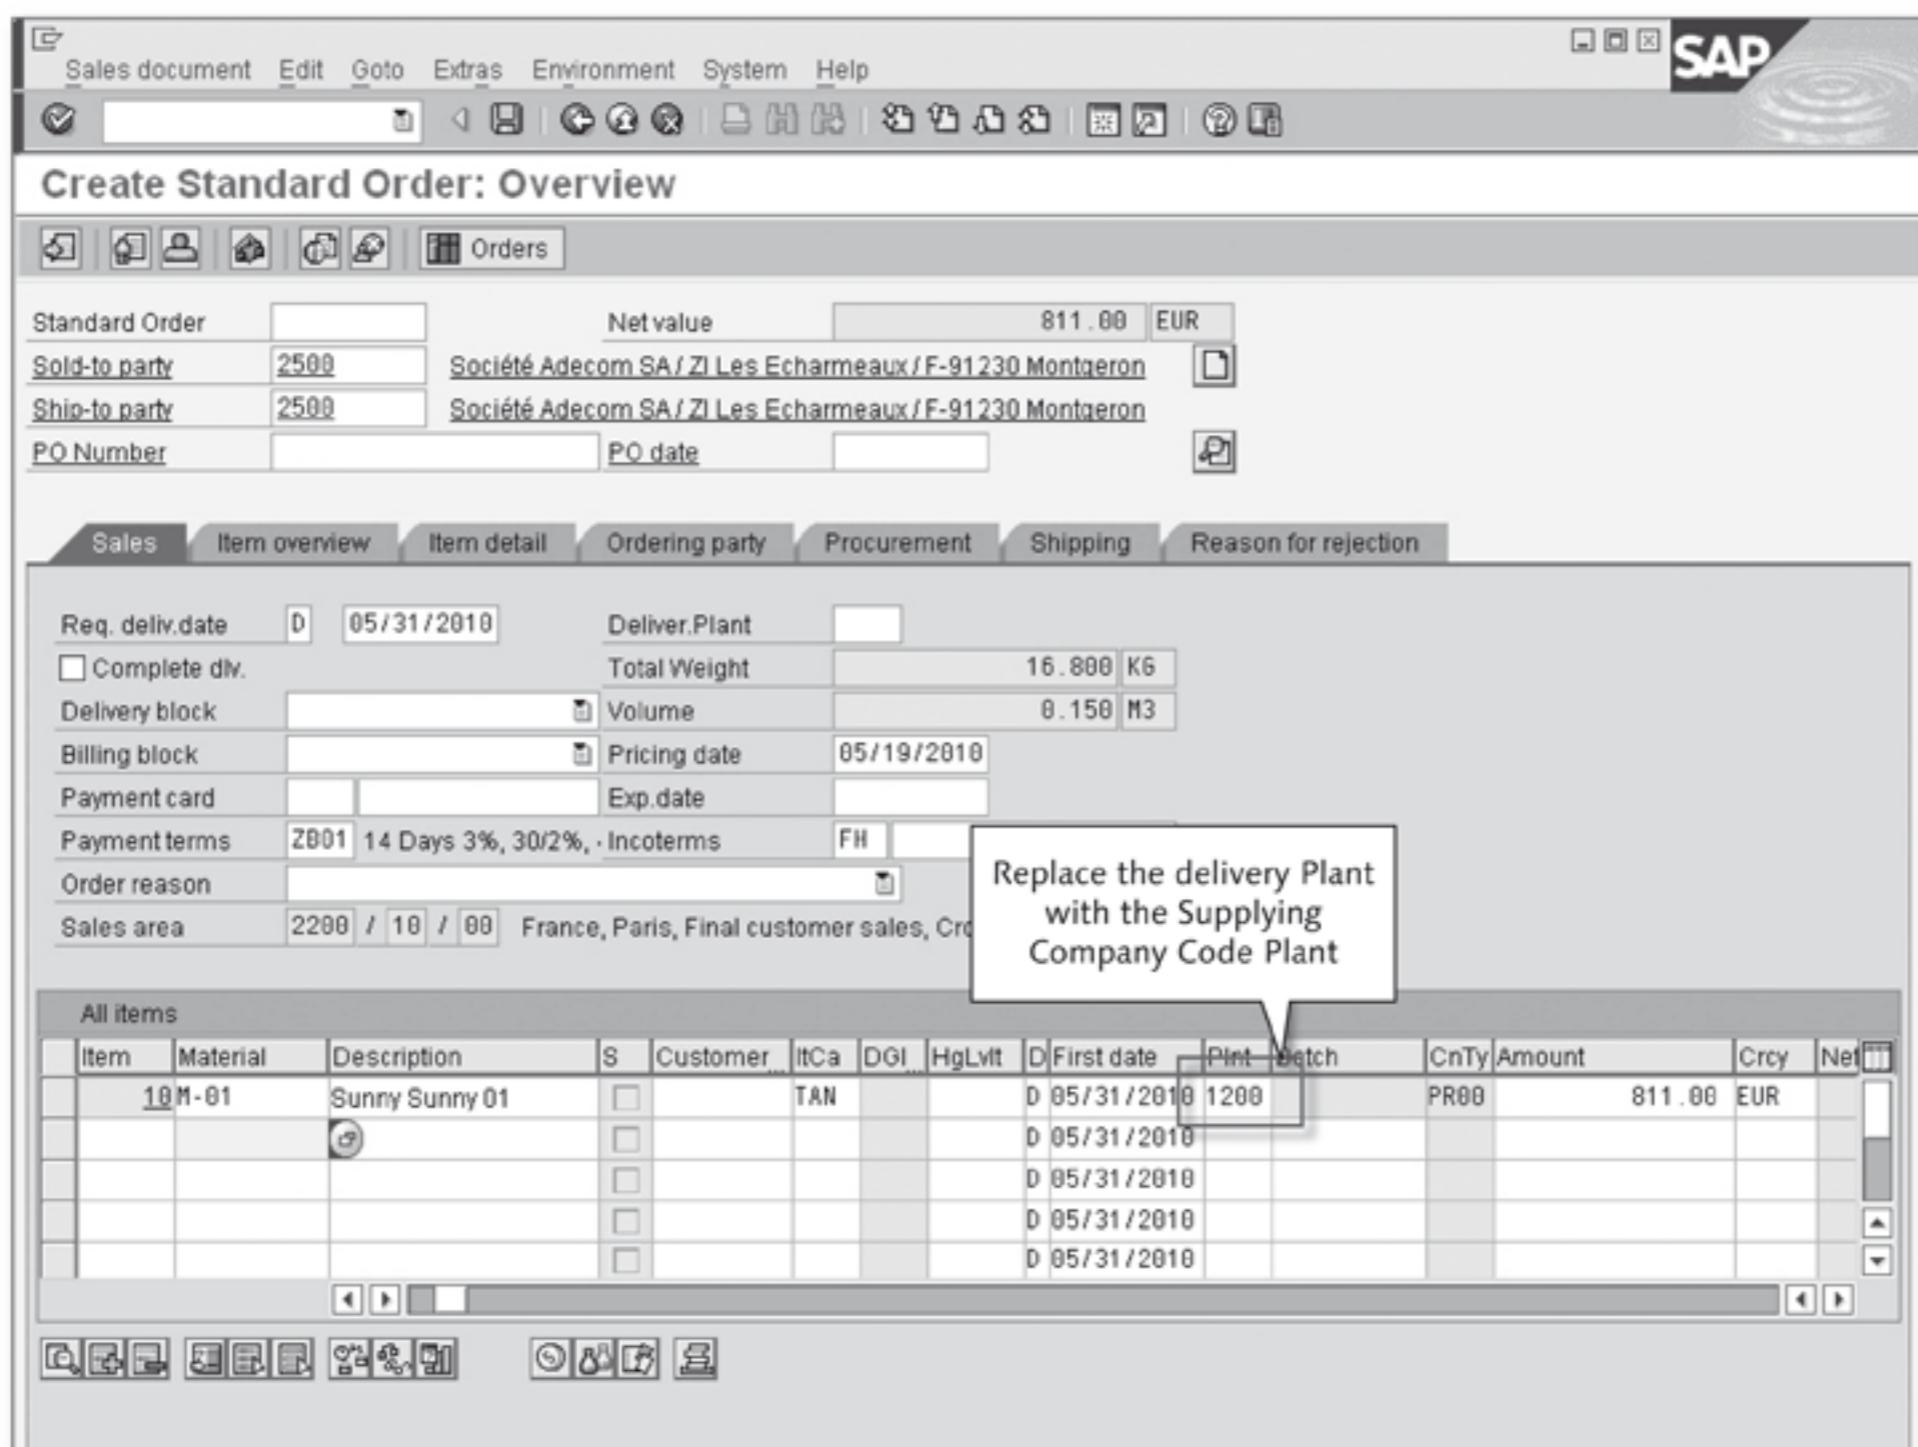

Figure 3.51 Create Sales Order – Cross-Company Code Sales
5. Replace the delivery plant with the supplying company code plant; in our example, enter plant 1200 as shown in Figure 3.51.